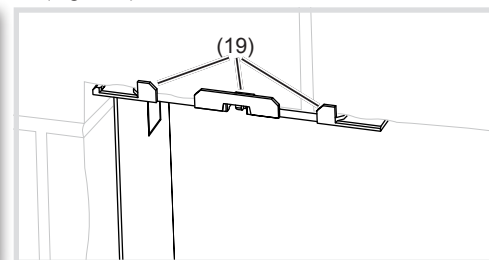

Figure 5: Installation position of fastening elements
- (17) 5.5 mm socket wrench
- (18) Fastening elements
- ⓘ The support bracket (19) of the fastening elements (18) must be located on the wall surface (Figure 5).